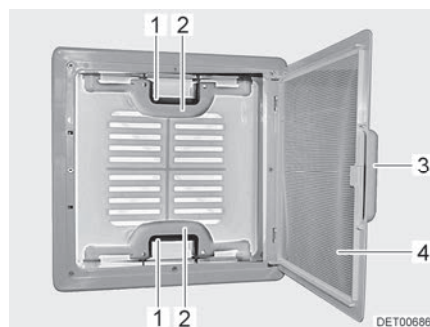

Fig. 19 Skylight with snap latch
- Pull on the handle (Fig. 19,3).
- Fold insect screen (Fig. 19,4) downward.
- Push the snap latch (Fig. 19,1) towards the inside of the skylight. At the same time use the handle (Fig. 19,2) to press the skylight upwards.
- Swing insect screen (Fig. 19,4) upwards until it latches in place.
- Using both handles (Fig. 19,2), pull down the skylight with force until the two snap latches (Fig. 19,1) lock into place.